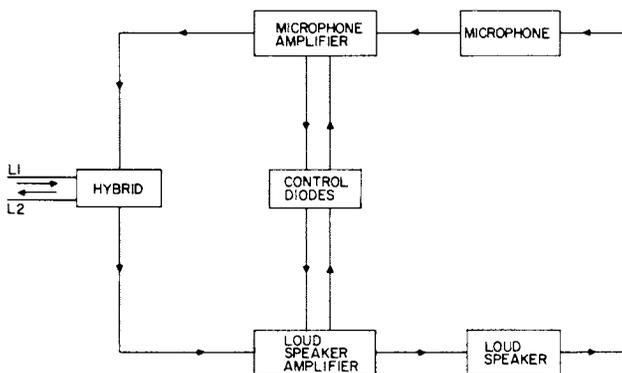

Figure 11. Block Diagram of Loudspeaker Telephone Circuit.
6.03 Figure 11 is a block diagram of the loudspeaker telephone circuit. Lines L1 and L2 are connected to the hybrid. The hybrid network is a bridge circuit used to couple the microphone and loudspeaker amplifiers to the line while minimizing the electrical coupling between these amplifiers. The ideal hybrid network should be exactly balanced against the impedance of the line, but since the balance actually varies with the characteristics of the particular line and its distant terminating impedance, some coupling always exists.